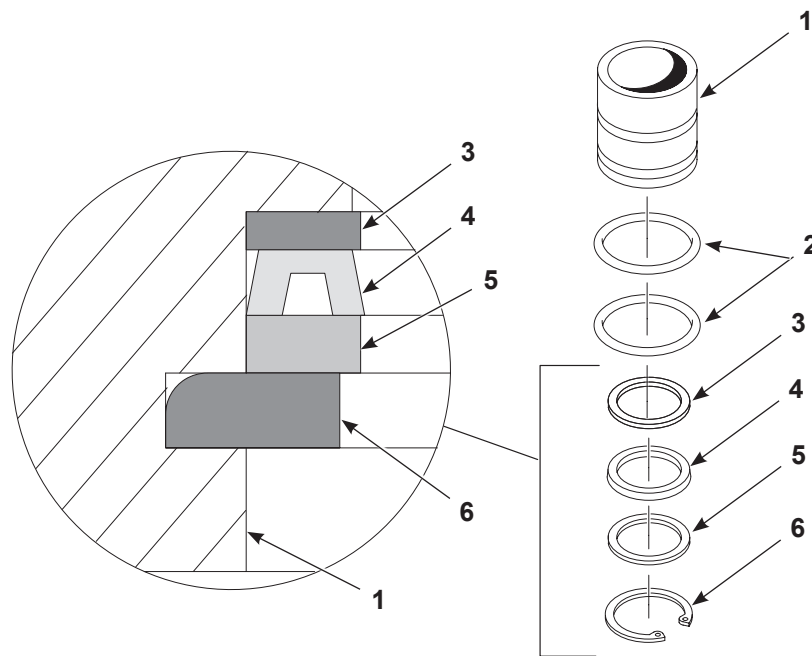

Figure 6-4 Packing Gland Rebuild
1. See Figure 6-4. Remove the retaining ring (6), spacer (5), U-cup or seal (4), and bearing (3) from the housing (1).
2. Remove the two O-rings (2) from the housing. Discard the the old parts.
3. Lubricate and install new O-rings (2) on the housing.